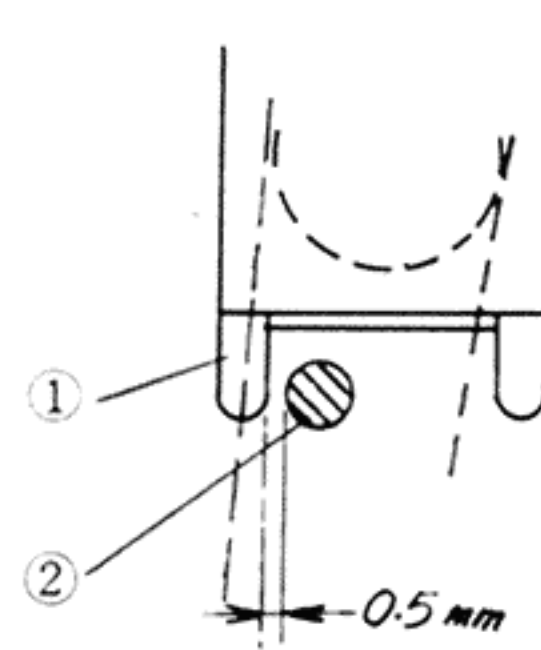

Fig. 17
2) Auto shut-off switch (Fig. 17)